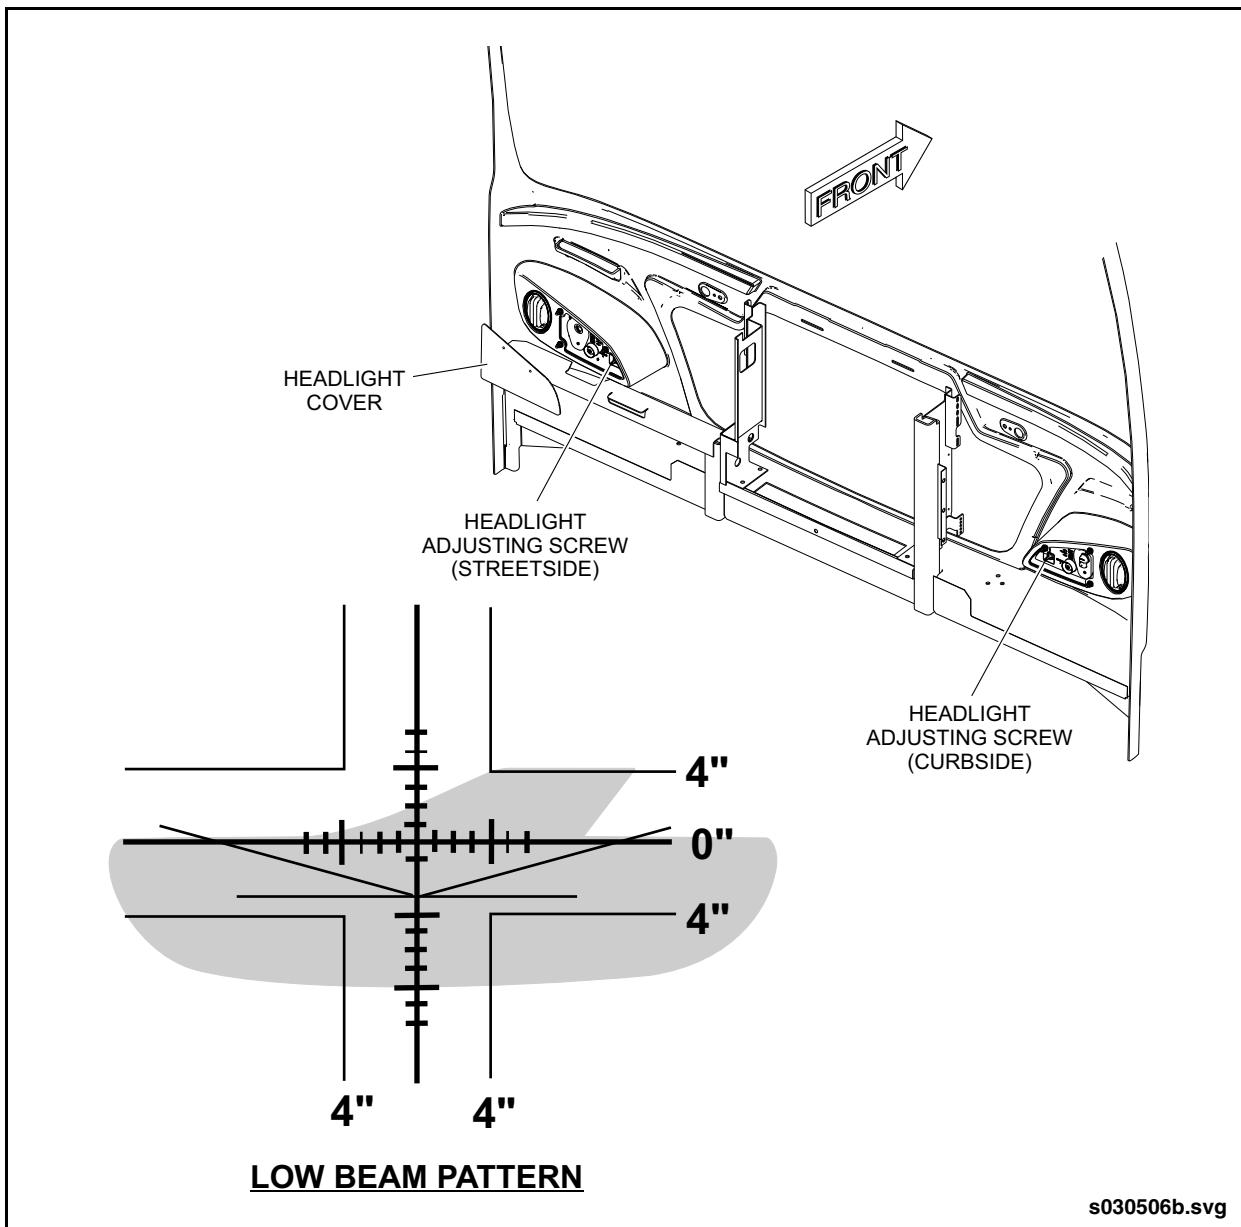

Fig. 9-51: Headlight Aiming
9. Observe the pattern displayed on the screen and determine the required direction of adjustment. See "Fig. 9-51: Headlight Aiming" on page 82.